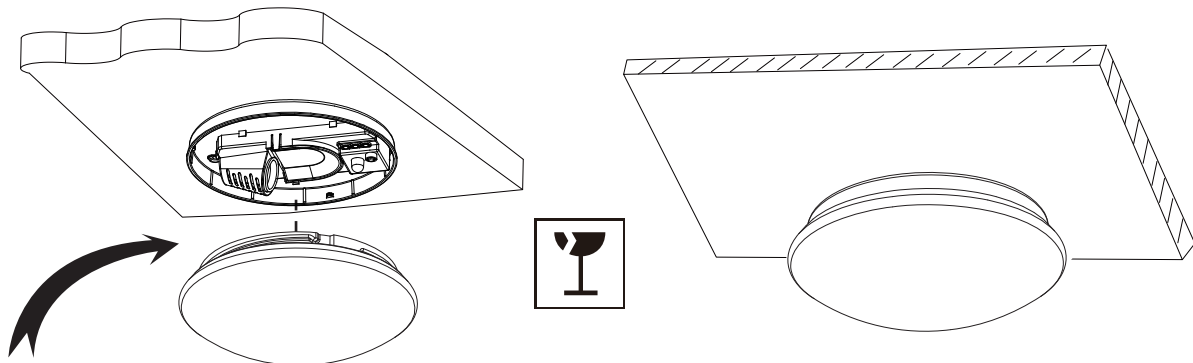

Fig.7
- Step7 Will rotate, cover chimney on base (as Fig.7)